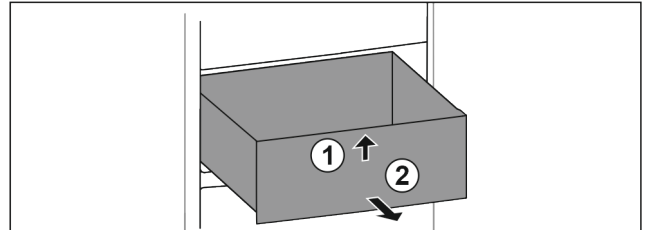

Fig. 63
- ▶ Lift up drawer at the front. Fig. 63 (1)
- ▶ Remove drawer to the front. Fig. 63 (2)